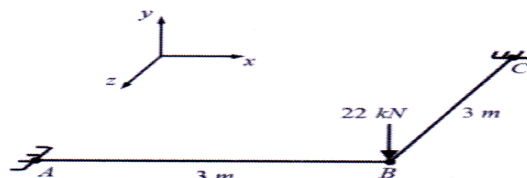

Figure 6
- Q6) Analyze the grid structure ABC as shown in Figure 6 using stiffness matrix method. Take $E = 210 \text{ GPa}$, $G = 84 \text{ GPa}$, $I = 16.6 \times 10^{-5} \text{ m}^4$, $J = 4.6 \times 10^{-5} \text{ m}^4$ for all elements. [16]